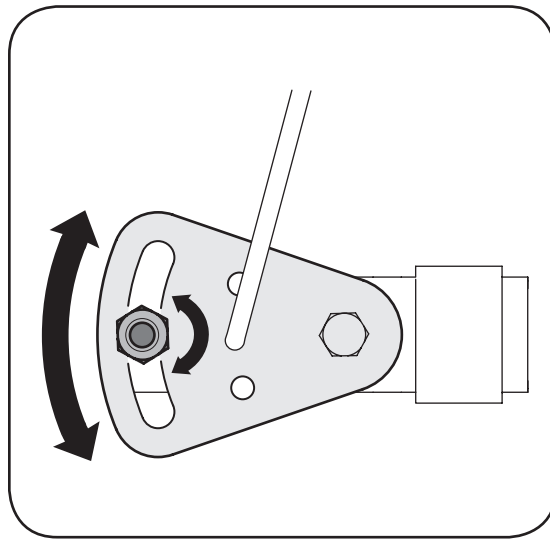

Figure 5-1
2. Loosen the hex nut on the speed selector pivot bracket. See Figure 5-1.